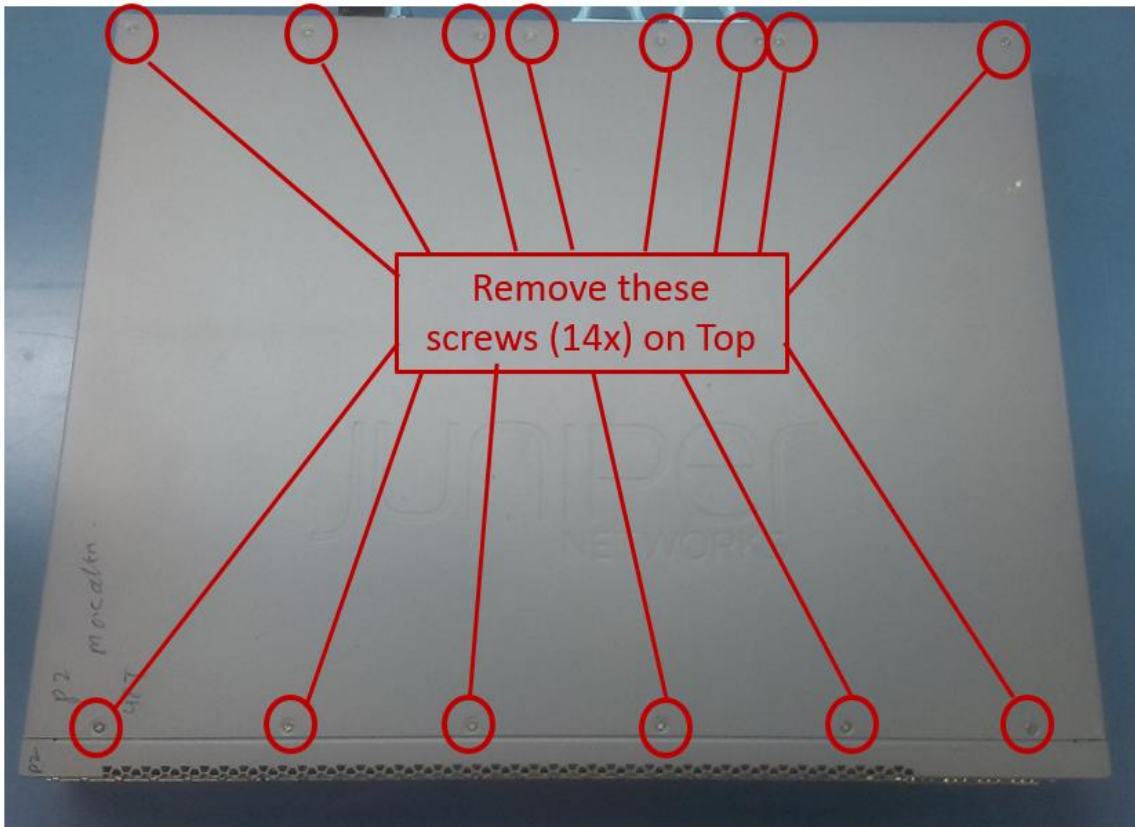

Figure 3-2: Top side screws
| Figure 3-2: | Top side screws | 4 |
3. Remove fourteen(14) screws from the top of the system (Figure 3-2)